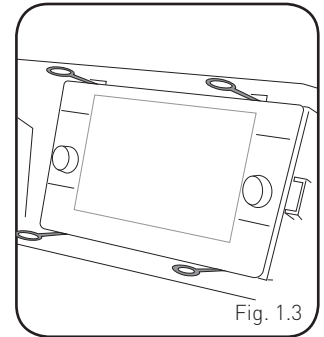

Fig. 1.3
3. Insert the four (4) supplied radio keys into the slots at the top and bottom of the factory radio with the tapered sides facing inward, pull outward to remove the radio from the dash. Disconnect all harness and remove. (Fig. 1.3)